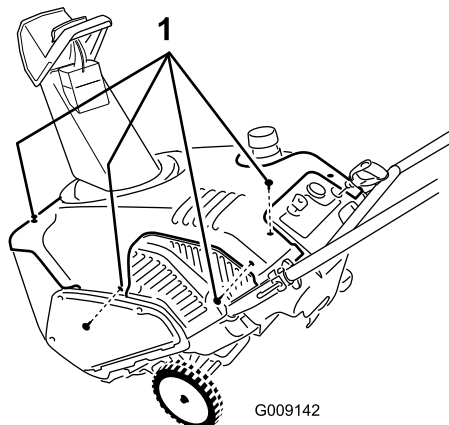

Figure 28
3. Remove and save the fasteners that secure the shroud as shown (Figure 28).